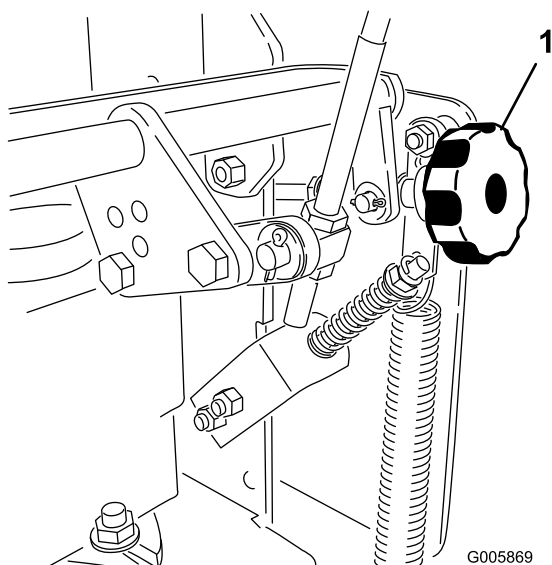

Figure 55
4. If the unit tracks to one side or the other, turn the quick track knob. Turn the knob right to steer right and turn the knob left to steer left (Figure 55).